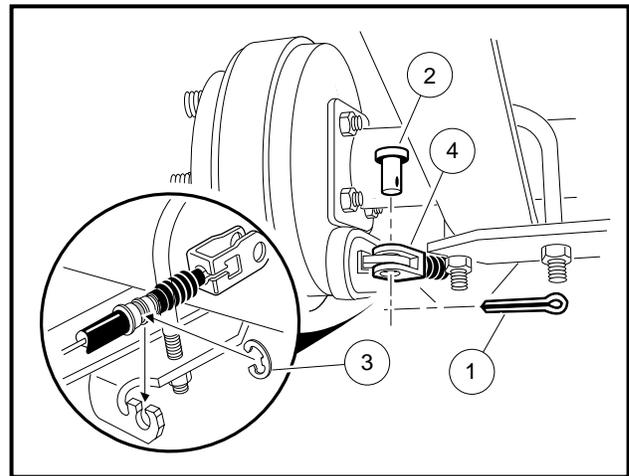

Figure 16-9 Disconnect Brakes
3. Remove the cotter pins (1), brake cable clevis pins (2), and cable retaining E-clips (3). Disconnect the brake cables (4) (**Figure 16-9**).